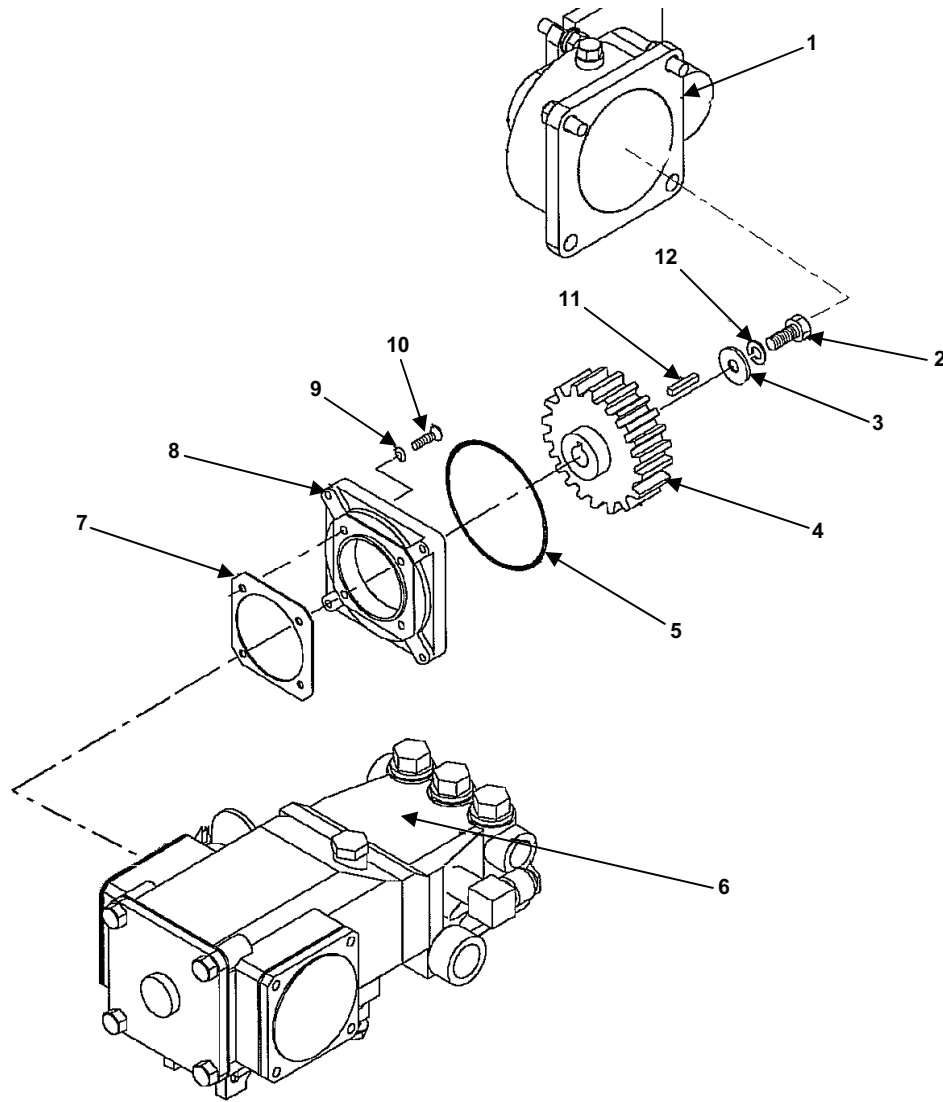

Figure 3. High-Pressure pump Flange.
1. Remove bolt (Figure 3, item 2), lock washer (Figure 3, item 12), washer (Figure 3, item 3), and key (Figure 3, item 11).
2. Slide the spur gear (Figure 3, item 4) from the high-pressure pump (Figure 3, item 6).
3. Remove O-ring (Figure 3, item 5), screws (Figure 3, item 10), and lock washers (Figure 3, item 9) from the flange (8).
4. Remove flange (Figure 3, item 8) from the high-pressure pump (Figure 3, item 6). Remove the gasket (Figure 3, item 7).
1. Refer to Figure 3 for this procedure section.
2. Align the holes on the pump (Figure 3, item 6), gasket (Figure 3, item 7), and flange (Figure 3, item 8). Fasten with screws (Figure 3, item 10) and washers (Figure 3, item 9).
3. Rub a light coat of clean lubricating oil on the O-ring (Figure 3, item 5) and place it in the groove on the flange (Figure 3, item 8).
4. Place the key (Figure 3, item 11) in the recess in the spur gear (Figure 3, item 4) and slide the gear on the pump shaft.
5. Secure the gear with washer (Figure 3, item 3), lock washer (Figure 3, item 12), and bolt (Figure 3, item 2).